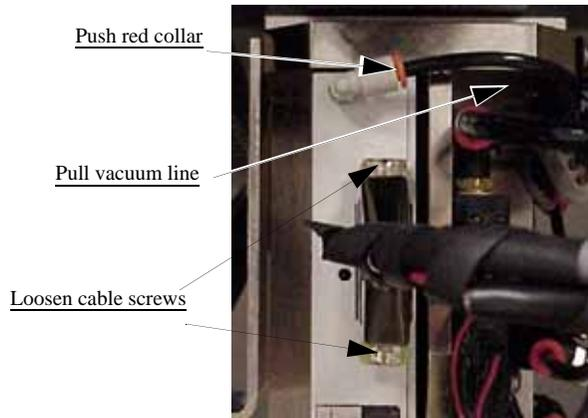

Figure 6-84—Location of vacuum line and cable screws
- 2b) Remove cable by loosening two screws (indicated in *Figure 6-84*).